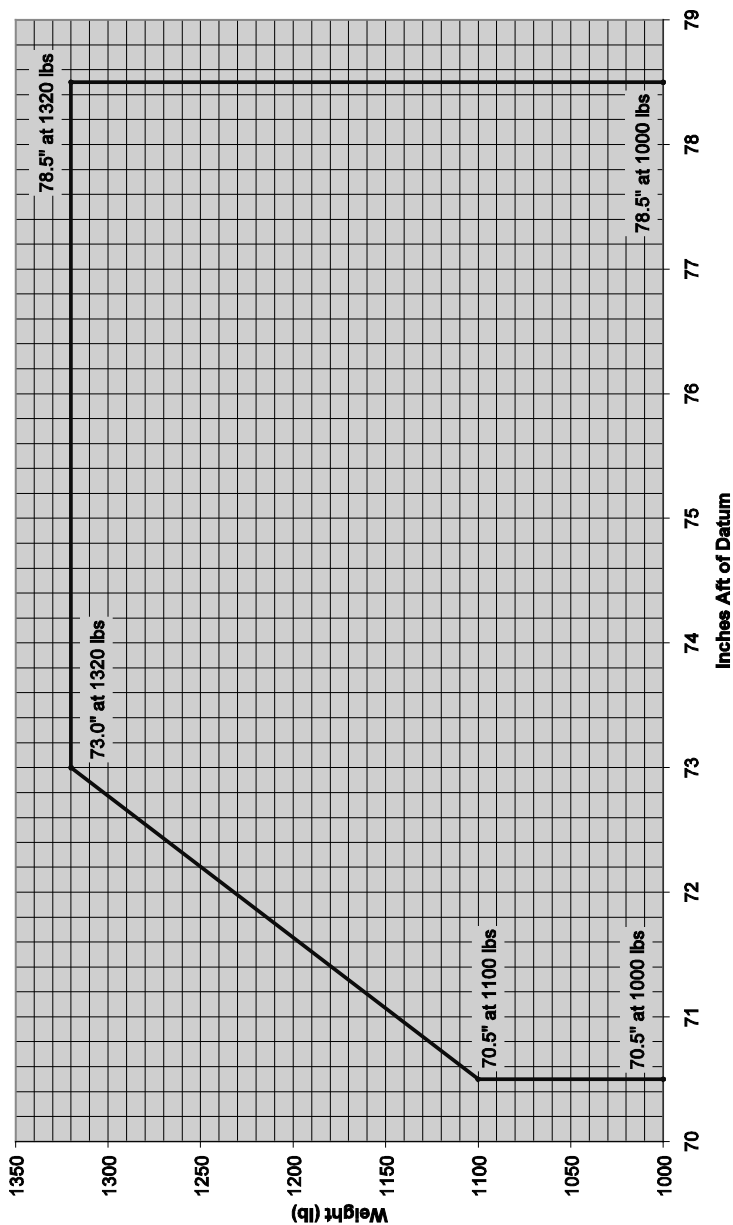

Figure 6-4 Weight and Balance Envelope
6. Plot the point on Figure 6-4. If it is within the weight and balance envelope, the aircraft is within the approved envelope.